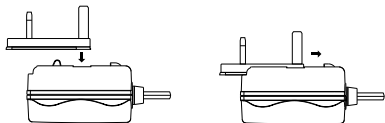

fig2
5. Assemble the power cable and adaptor by positioning the plug head as shown (fig2).